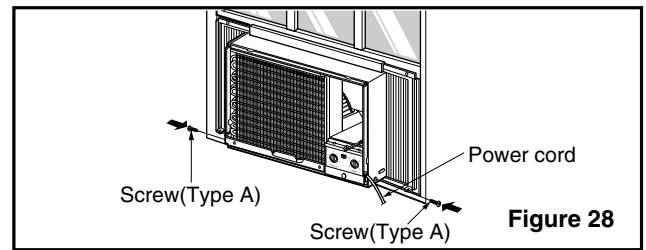

Figure 28
10. Slide the unit into the cabinet.(See Fig. 28)
11. Cut the foam-strip ⑧ to the proper length and insert between the upper and lower window sash.